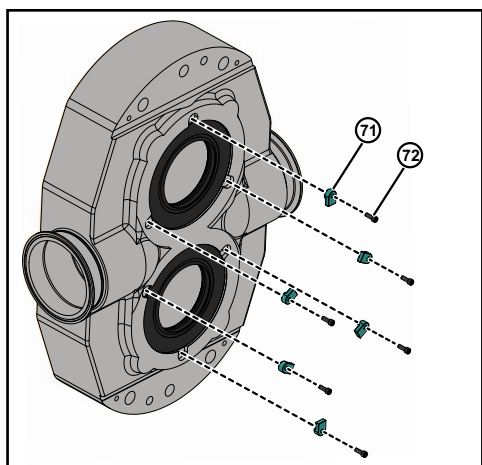

Figure 89 - Install Screws and Retainer-tab
6. Install all the retainer-tab (71) and retainer bolts (72) onto the pump body, as shown in Figure 89.